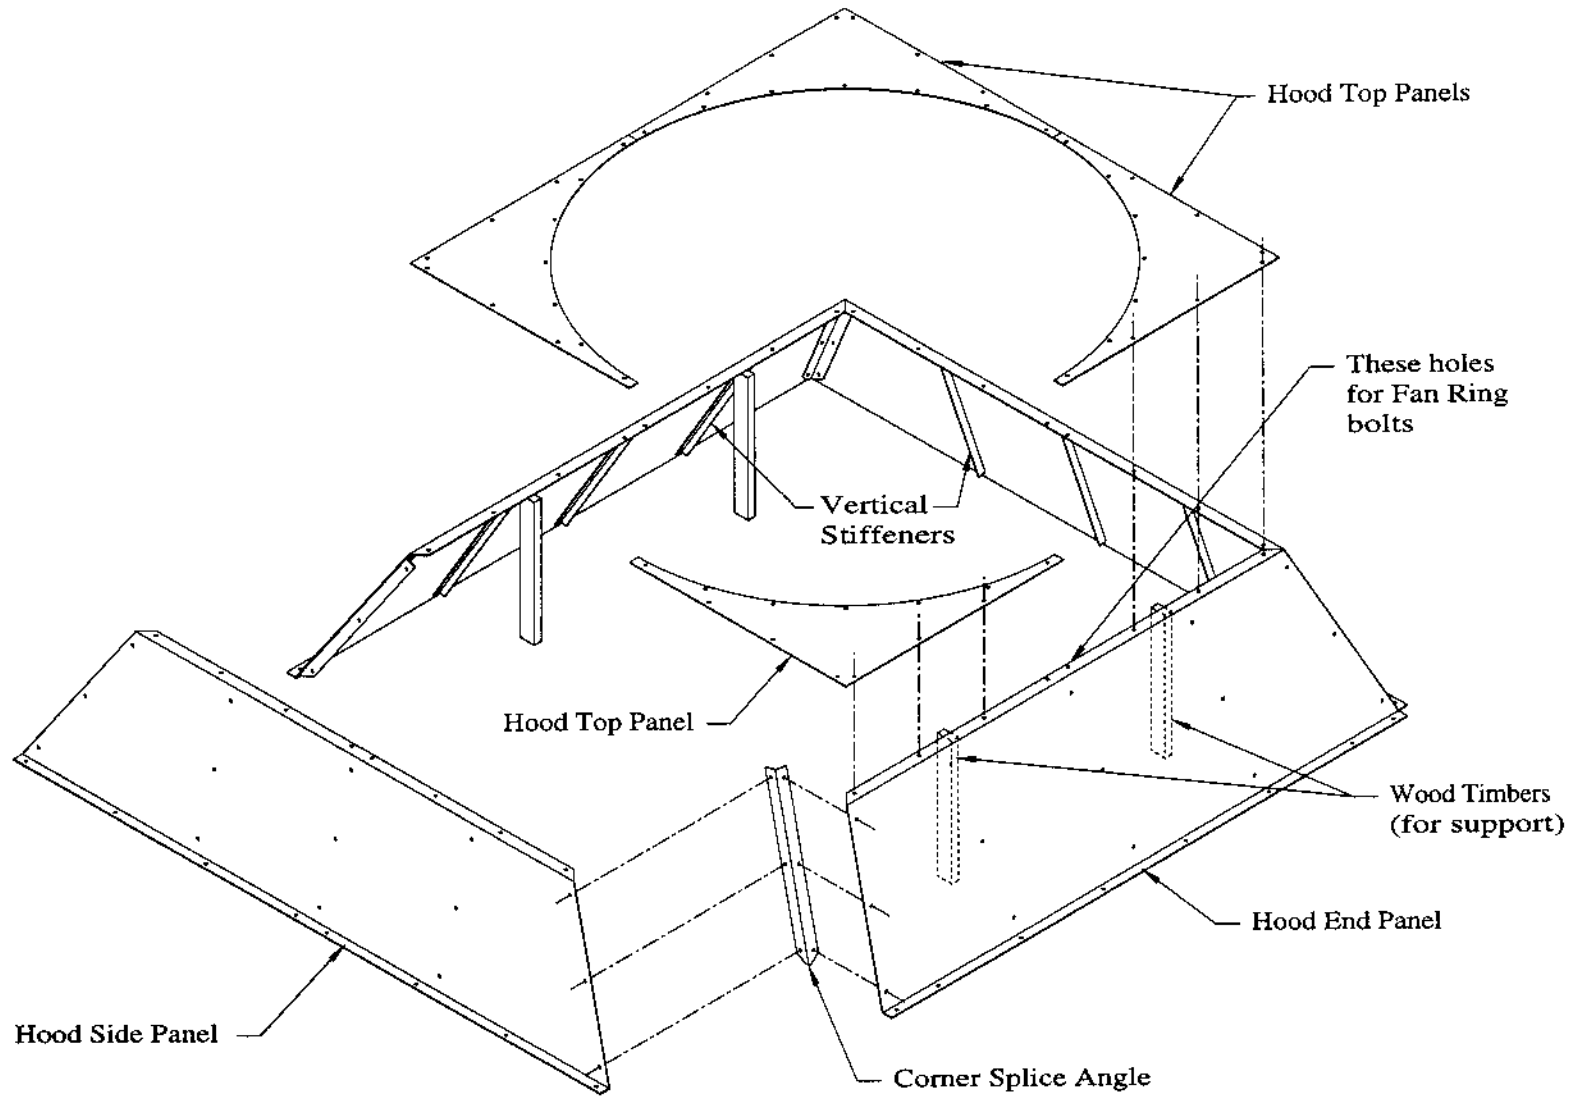

FIG. B1 - END, SIDE, AND TOP PANELS
1. Prop up hood end panels with 3 ft. (0.9 m) wood timbers, or other support. Loose bolt corner splice angles to end panels. Loose bolt hood side panels to corner splice angles. Attach vertical stiffeners to end and side panels. These stiffeners may be bolted tight at this time. Loose bolt hood top panels to side and end panels. Leave out bolts which are also attached through fan ring sections. See Fig. B1.